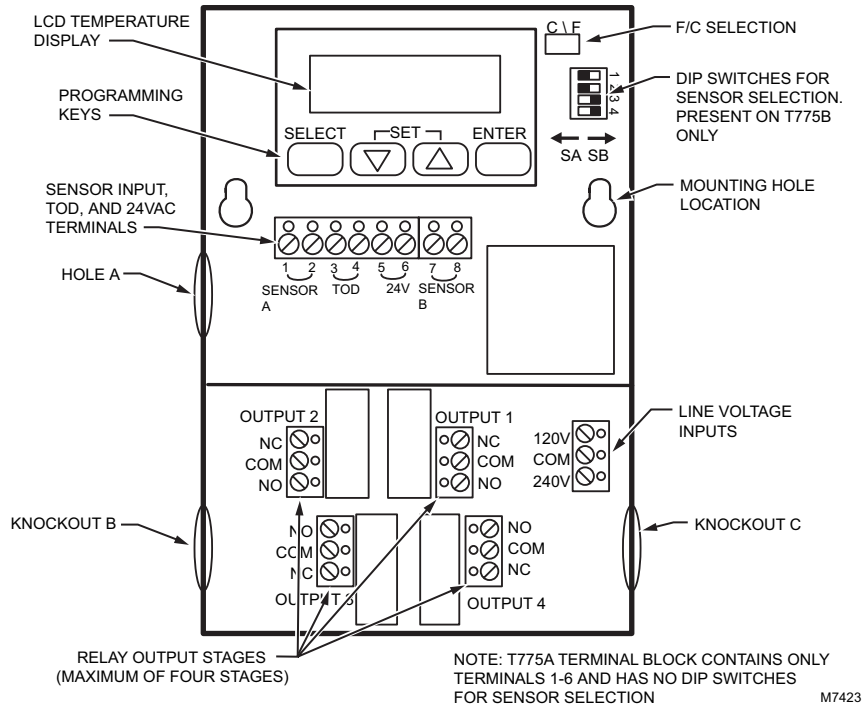
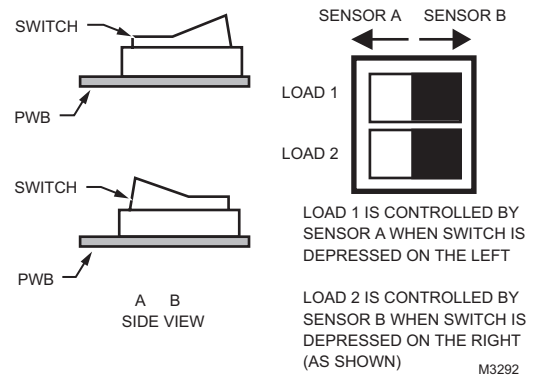

Fig. 3. Feature locations for T775A,B.
Fig. 9. DIP switch settings for sensor selection.
Mounting: Mounts on any suitable horizontal or vertical surface (see Fig. 3 and 4 for mounting hole locations).
Refer to Fig. 3 or 4 for locating the appropriate power inputs, remote sensor input, load output terminals, contact closure input and sensor selection switch. Access to the terminals can be gained through standard conduit knockouts (A through C) located around the perimeter of the enclosure.
The T775B,D have dual sensor inputs and allow two separate controllers to exist within one enclosure. Selection of the stage parameters (operation mode, setpoints, and differentials) is the same as for a single sensor device after each stage is assigned its operating sensor. This assignment is hardware driven via a four position DIP switch. An explanation of the DIP switch assignments appears in Fig. 9. See Fig. 3 and 4 for the DIP switch location.
The two-terminal input allows the user to override a relay-energized condition on all outputs. This is done using contact closure between terminal pins 3 and 4 (TOD). (See Fig. 3 and 4 for location.) This can be achieved manually or by using an EMS controller or time clock with normally open contacts (W7505 or S7005, for example).
A single jumper plug controls °F/°C indication of the displayed temperature value. See Fig. 3 and 4 for the location of this jumper. The unit ships with the jumper installed in the °F mode. To operate the device in the °C mode, remove the jumper. Replacing the jumper reinstates the °F mode.
On the T775B,D, DIP switches are provided for assignment of each relay output stage to its operating sensor. If an individual switch is depressed to the right—toward its corresponding load number (1 through 4 on DIP switch)—Sensor B is the controlling sensor for that output stage. If an individual switch is depressed to the left, Sensor A is the controlling sensor for the output stage. An example of the switches and their corresponding positioning is shown in Fig. 9.
1. For the T775B and D, assign the loads to the appropriate sensor by setting the DIP switch in the upper right corner of the T775 (see DIP Switch Selection, Fig. 9).